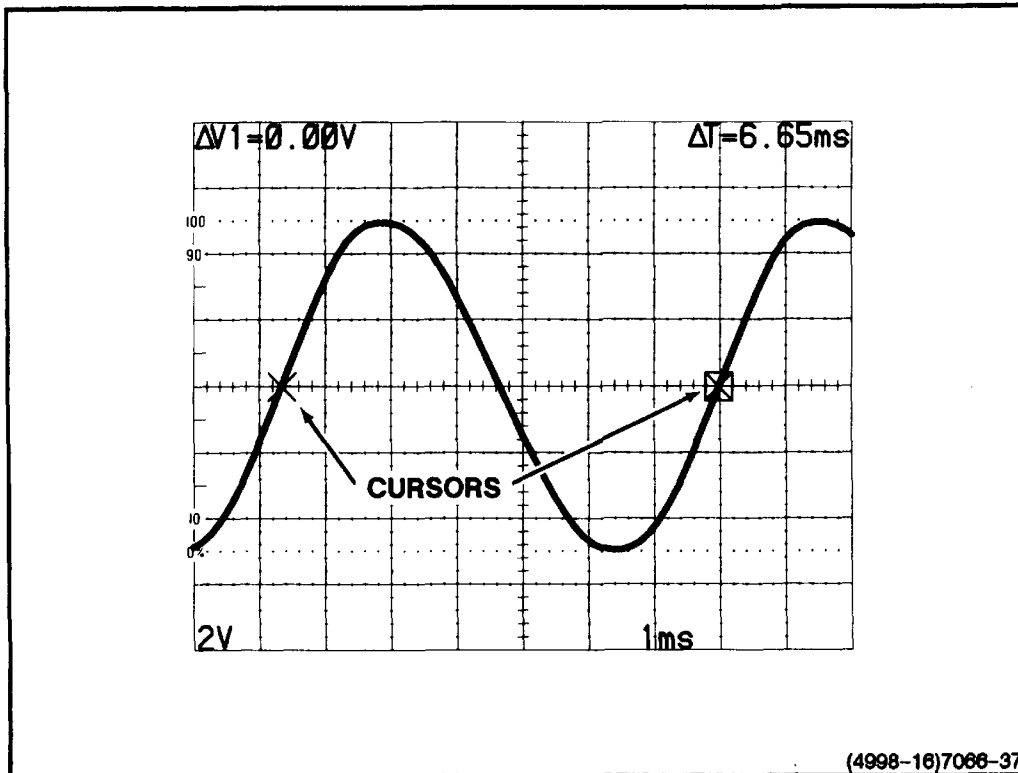

Figure 6-12. Time duration, cursor method.
4. Set the SEC/DIV switch to display one complete period of the waveform to be measured (see Figure 6-12).